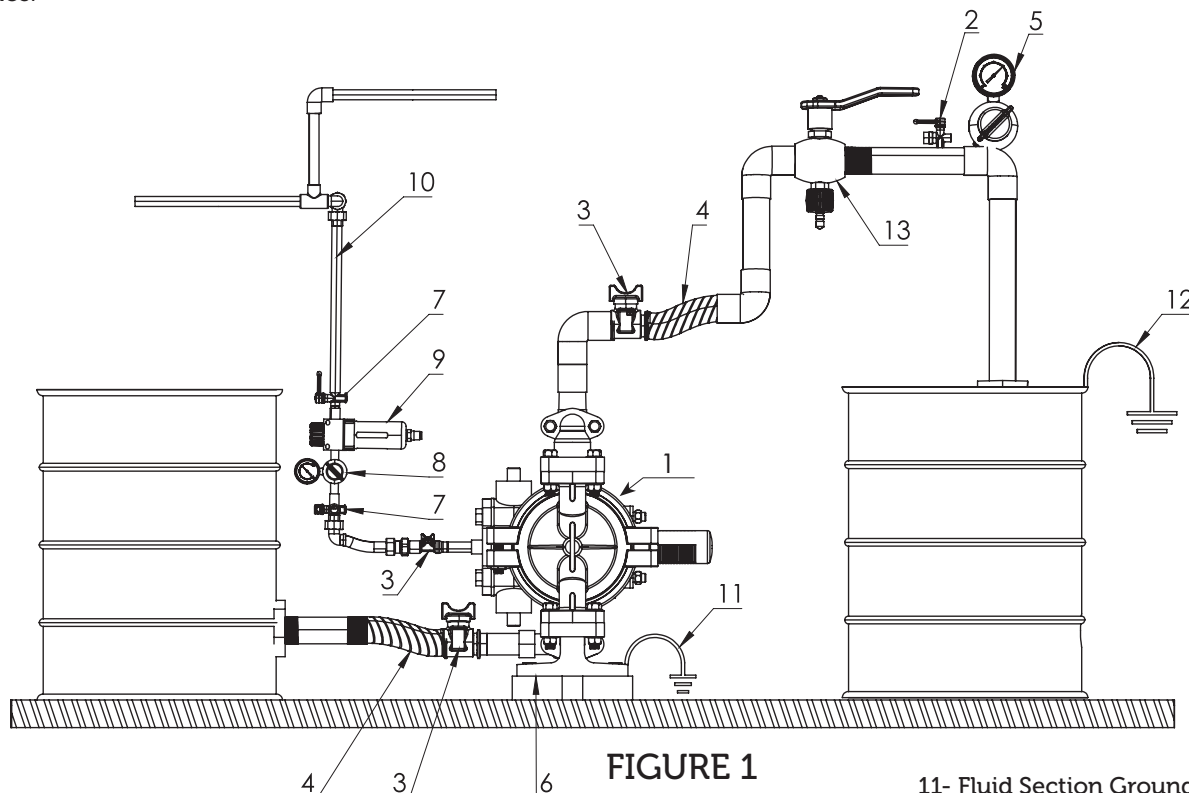

FIGURE 1
Installation of the diaphragm pump is easy. However, if installation characteristics recommended by the Manufacturer Company are considered, working life of the pump shall be long and have high efficiency. (See Figure 1).
The following (Figure 1) installation type is to give User Company enlightening information about how installation should be made and to guide. Consult to VESTAPOMP or authorized dealer for more information and document.
Pressure from the air line connected to the pump should not exceed 7 bar. Install the air line with a pipe that will not have less size than the connection size so that the pump operates at demanded efficiency. Air line connection size is ¼ in VP 02 type pump. Install air line of the pump as shown in **Figure 1**. Pay attention that air line between the master air line and pump is flexible. Place a cut-off valve (ball valve) before the air line coming to the pump. Close air inlet from this valve when necessary or if pump air is cut off.
- Make air line connection as shown in **Figure 1**. Connect accessories to the wall or to a fixed place. Make sure that air line conducts electricity.
CAUTION Air pressurized between air line connected to the diaphragm pump (shown with 3 in Figure 1) should be relieved. Otherwise, pressurized air provides that the pump acts in an unexpected way. This situation may cause accidents and intoxications due to moving parts.
- Place ball cut-off valve before the compression line in a way to be close to the pump. (See Figure 1)
- Place manometer before the compression line to be able to read the pressure. (See Figure 1)
- Flexible and master line pipes to be connected to suction line should be conductive. Ground the pipes if you did not use conductive pipes. (See Figure 1)